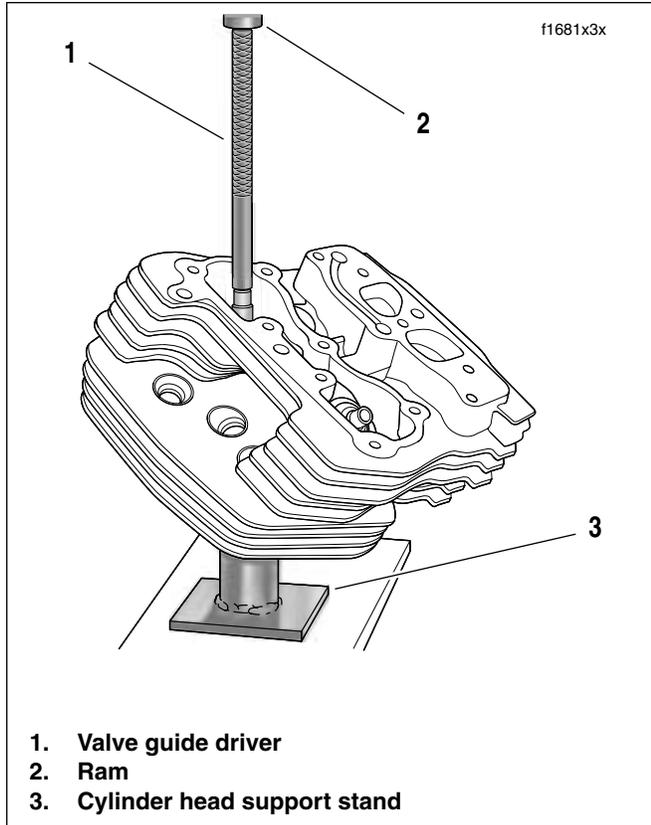

Figure 3-14. Remove Valve Guide
3. See Figure 3-14. Center valve guide driver under ram of arbor press. Apply pressure until valve guide drops free of cylinder head. Discard the valve guide.